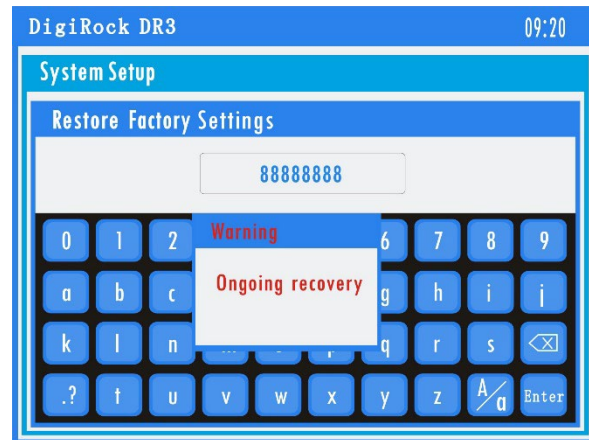

Fig 5-23 Ongoing Recovery
- Steps: Enter system setup, select default setup, then enter password, click Enter on lower right corner, then system starts default setup (Fig 5-23), a moment later system will back to system setup.